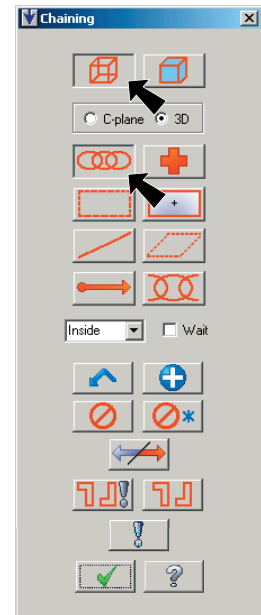

Fig. 7
Step 6. Click **Wireframe** button  in the Chaining dialog box, **Fig. 7**.
Step 7. Click **Chain** button  (C) in the Chaining dialog box, **Fig. 7**.
Step 9. Click OK  in Chain dialog box, **Fig. 7**.